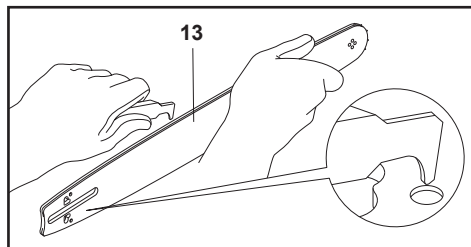

Fig. 37
3. Check the drive sprocket (11). If it is worn or damaged due to strain, have it replaced by an authorised service agent or a similarly qualified person.
4. Clear residue from the rails on the guide bar (13) by using a screwdriver, putty knife, wire brush or other similar tool. This will keep the oil passages open to provide proper lubrication to the guide bar (13) and saw chain (12) (Fig. 37).